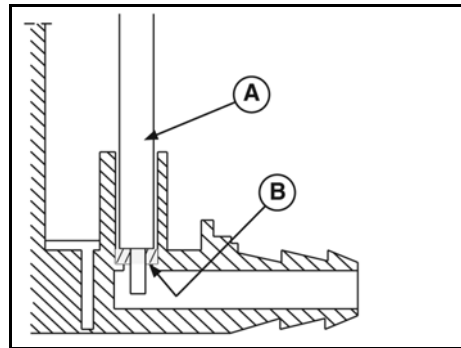

Figure 32
5. Using Bushing Driver #19057 (A, Figure 32), install new needle seat with grooved edge down (B) until firmly seated.